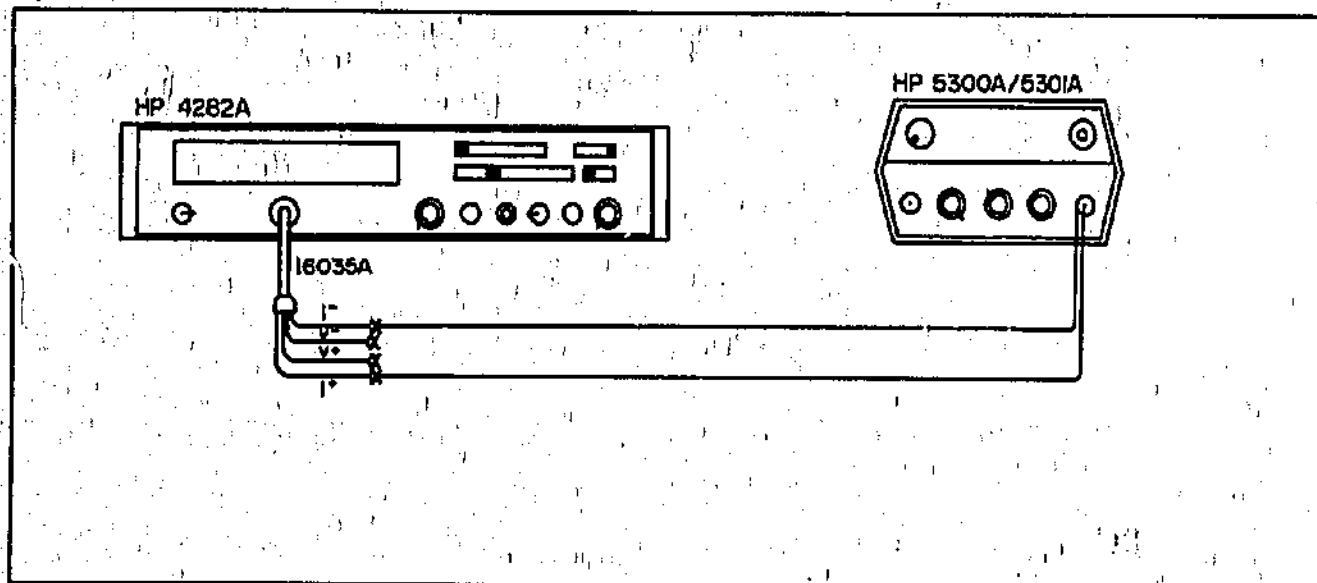

Figure 5-1. Measuring Frequency Check.
5-11. The measuring frequency check, shown in Figure 5-1, requires a frequency counter (HP 5300A/5301A). Proceed as follows:
- b. Connect 5300A/5301A to 4282A as shown in Figure 5-1.